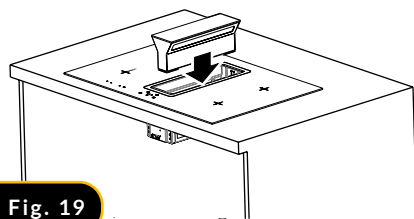

Fig. 19
7. Insert the lighting and filter group in the container and press lightly. (Fig. 19).